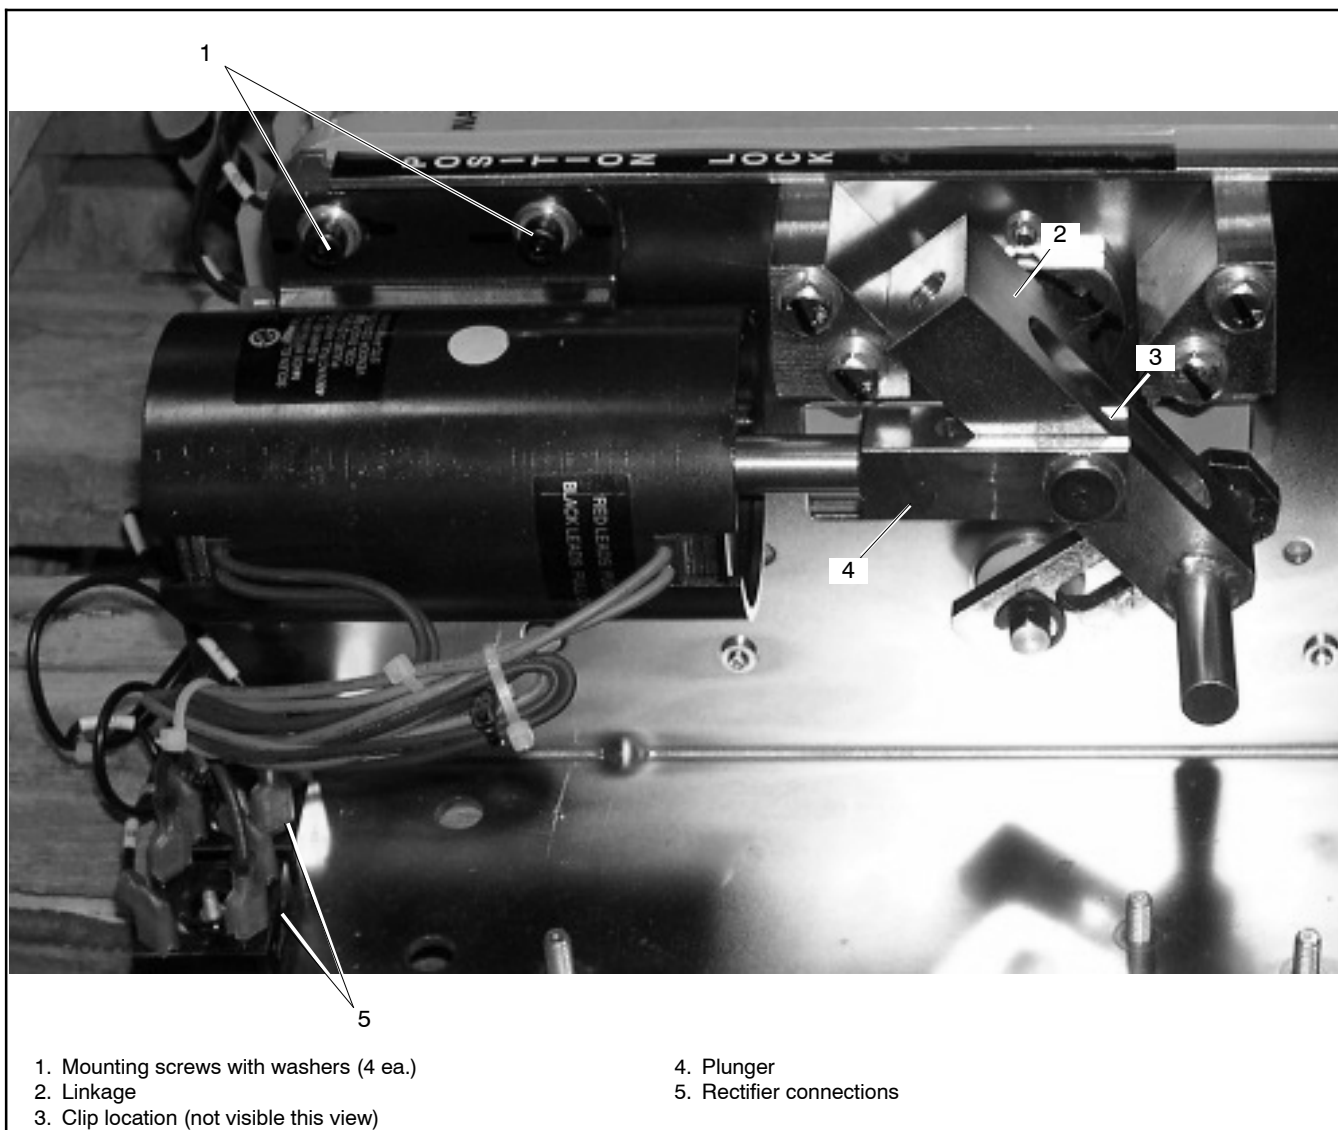

Figure 7-90 Solenoid Assembly (shown on the bench)
10. Note the rectifier connections and disconnect the AC leads. See Figure 7-90.
14. Hold the solenoid coil firmly and remove the four screws and washers. See Figure 7-90.
18. Place the new solenoid assembly into position, aligning the linkage pins with the mechanism slots. See Figure 7-90.